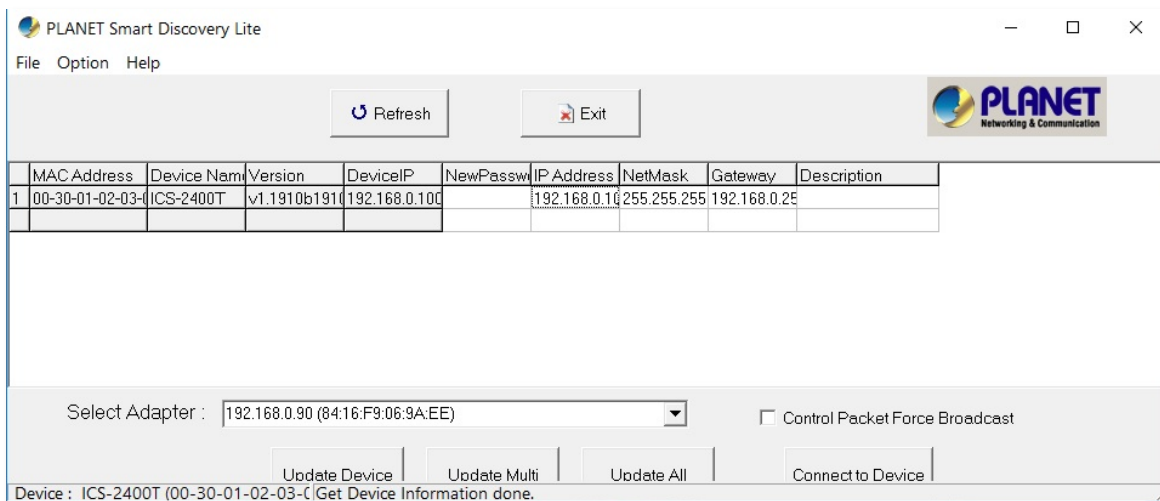

Figure 3-4-2: Planet Smart Discovery Utility Screen
3. Press the **“Refresh”** button for the currently connected devices in the discovery list as shown in Figure 3-4-2.:
4. Press the **“Connect to Device”** button and the Web login screen appears as shown in Figure 3-4-2.